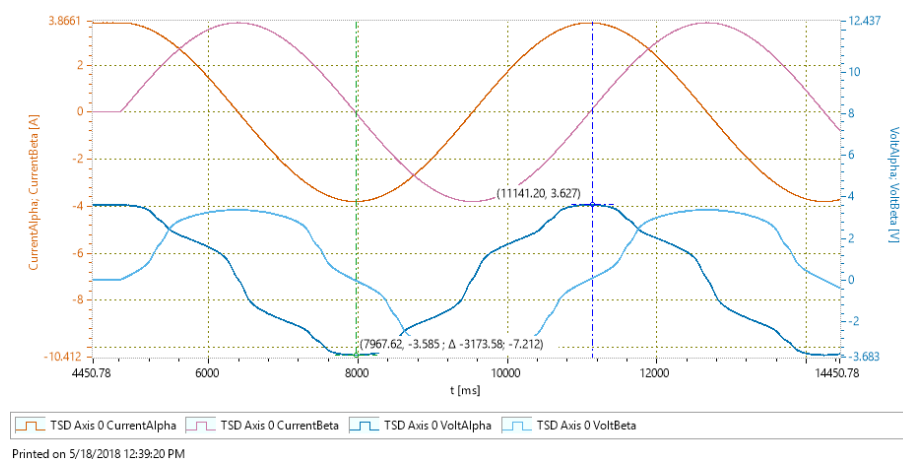

Figure 4: Measurement used to evaluate the resistance. $R = 3.6V / 3.8A = 0.85\Omega$.
2. Run the motor with low velocity in synchronous mode and measure the signals for at least one electrical turn. The velocity should be low enough so that the voltage and current are in phase (see Figure 4).
3. Measure the ratio between VoltageAlpha and CurrentAlpha or VoltageBeta and CurrentBeta to determine the resistance (Figure 4). And write the result to register `Parameters.CurrentController.R`.